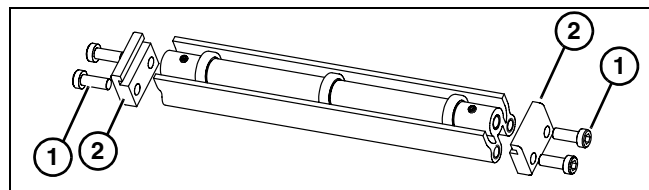

Figure 11
1. Locate return rollers. Exploded view shown in Figure 11.
2. Remove screws (Figure 11, item 1) and clips (Figure 11, item 2) from roller assembly.